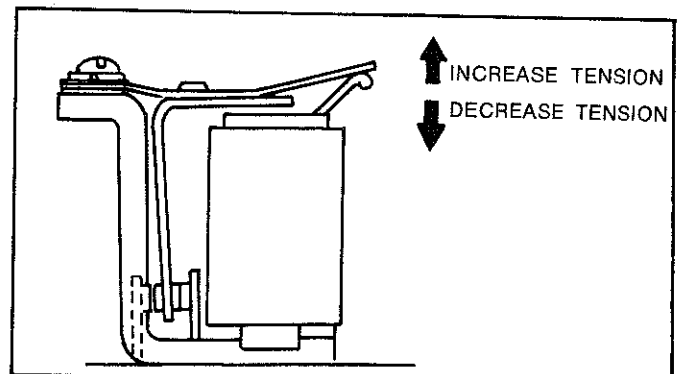

Fig. 15—Regulator adjustment
(4) Raise the alternator speed to approximately 4000 r.p.m. (approximately 2000 engine r.p.m.).
(5) The voltage should be as specified for the temperature conditions.
(6) If the regulator requires adjustment, remove the cover and increase the contact spring tension to increase the voltage or decrease the tension to decrease the voltage. Adjust the spring tension as shown in Fig. 15.